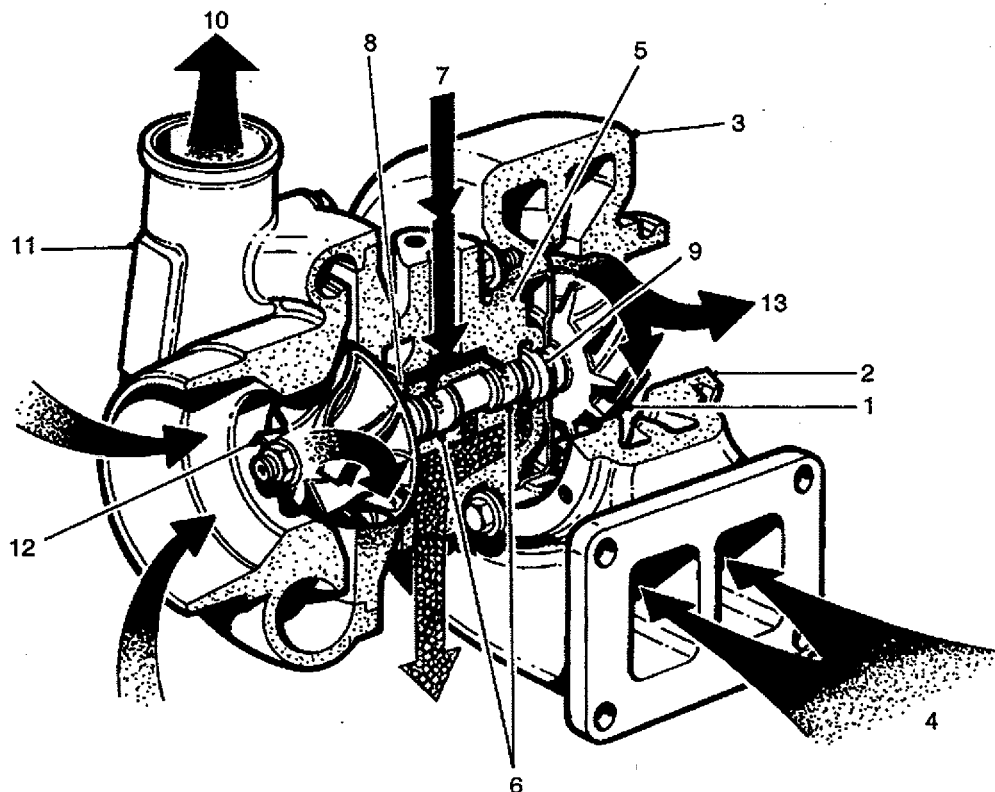

Fig. 0.1J
The turbocharger consists of an exhaust gas driven turbine and a radial compressor on a common shaft. The turbine and compressor wheels are mounted at opposite ends of the shaft which is enclosed and supported by a centre housing. The turbine and compressor wheels are enclosed by cast housings attached to the centre housing (see Fig 0.1J). The turbine is made up of a cast turbine wheel (1), wheel shroud (2) and a housing (3) that directs the flow of gas through the turbine. The inlet to the turbine (4) is at the outer diameter of the housing, exhaust gas flowing inward past the blades of the turbine wheel and exiting at the centre of the housing.
(Fig. 0.1J)